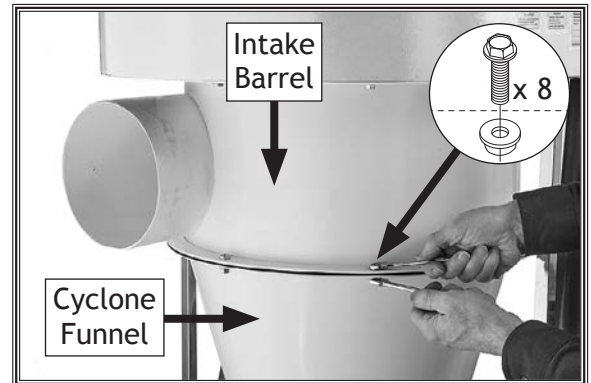

Figure 16. Attaching cyclone funnel to intake barrel.
10. Attach cyclone funnel to intake barrel, as shown in Figure 16, using (8) $\frac{5}{16}$ "-18 x $\frac{3}{4}$ " flange bolts and (8) $\frac{5}{16}$ "-18 hex nuts.